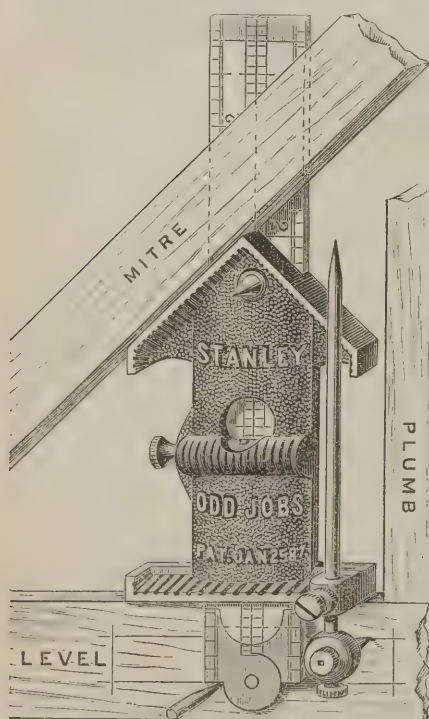

Fig. 6.—Odd Jobs. A New Tool Brought Out by the Stanley Rule and Level Company, New York.
Conn., with office at 29 Chambers street, New York. It is illustrated in Fig. 6 and is called Odd Jobs, in view of what it will do. It consists of a casting somewhat resembling a miniature house gable, with one round window in the end. The gable part, as we have familiarly described it, is a right angle, thus making the tool available for miter purposes and as a tri-square. The base is at right angles to the center line of the casting, thus adapting it for a level. The mercury-tube will be noticed in the cut. The tool is to be used for various purposes in combination with a rule, and, for that reason, the back of the casting is channeled out just the right width to receive an ordinary 2-foot rule when closed. The little set-screw shown at the left in the cut engages with the edge of the rule and holds it in place. With the rule inserted the range of work that may be accomplished will be readily perceived. No less than ten special uses are enumerated in the circular put forth by the company. These are as follows: A (1) tri-square, which is so evident that it does not need any explanation. The same remark also applies to (2) miter square. By combining with the rule and extending one end of the rule below the square head or base already referred to, a (3) T-square is secured. By keeping the rule in the same position and using a pencil or scratch awl in the angle of the rule as shown in the cut (4) a marking gauge is obtained. In the same manner a (5) mortise gauge is secured. By reversing the rule and allowing the opposite end to project beyond the base, a (6) depth gauge is formed. A (7) miter level and also a (8) spirit level are secured in a way already described. A plumb is derived by a line brought against the top and bottom projections as indicated at the right of the engraving. Referring to the cut, near what we have called the gable of the casting, will be noticed a sharp point. This is in line with the end of the groove or channel for the rule on the back. With the rule in the position already indicated, and using the point referred to as a center, a (9) compass or device for striking circles is obtained and that, too, with the means at hand for adjusting the radius to suit circumstances. Instead of using the rule as above described, the long scribe or point, shown at the right, may be employed, as shown in the cut. The end of the rod opposite the point is adapted to receive and hold a pencil, thus still further increasing the utility of the article in this regard. By using the right-angled edges at the top, which we have familiarly described as the gable of the casting, an (10) inside square for boxes and frames is obtained. We are not altogether certain that the above enumeration covers all the uses to which this tool can be put, but we give them as the enumeration which the company have made and leave our ingenious readers to discover still others. Using the tool as a beam compass, it has a capacity of from 1½ to 13 inches diameter. Smaller circles can be made by reversing the steel rod so as to bring the pencil near the center point. A circle of 25 inches diameter can be swung if the rule alone is used with a pencil in the angle at its head. This little article is being supplied nickel-plated, put up in neat boxes and is a most desirable addition to any carpenter's kit.